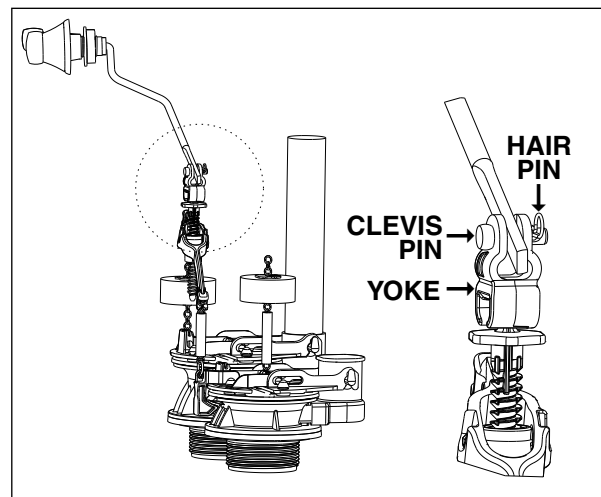

FIGURE 3
- Remove hair pin **FIGURE 3**
- Remove clevis pin; this frees the teeter bar from the trip lever arm **FIGURE 3**
- Insert the trip lever arm in to the yoke **FIGURE 3**
- Push the clevis pin through the arm **FIGURE 3**
- Insert the hair pin **FIGURE 3**